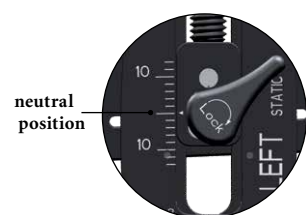
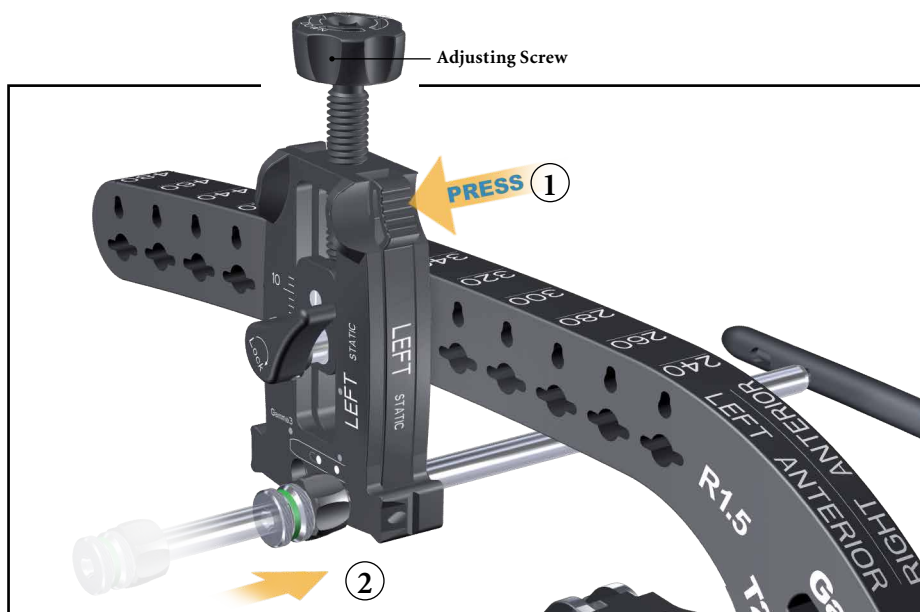

Fig. 14
Fig. 15
Before continuing, make sure your Adjusting Device is positioned in neutral position as shown (Fig. 14). Position can be moved upwards (posteriorly) and downwards (anteriorly) by turning the Adjusting Screw. Take the Tissue Protection Sleeve and the Drill Sleeve, then mount the assembly into the proximal targeting hole of the Adjusting Device (Fig. 15 ②) by pressing the Sleeve Fixation Button on the Adjustment Device (Fig. 15 ①). The Adjusting Device has Sleeve Fixation Buttons providing friction lock of the sleeve assembly. The sleeve has a free movement when the Button is pressed and locks when the Button is released.